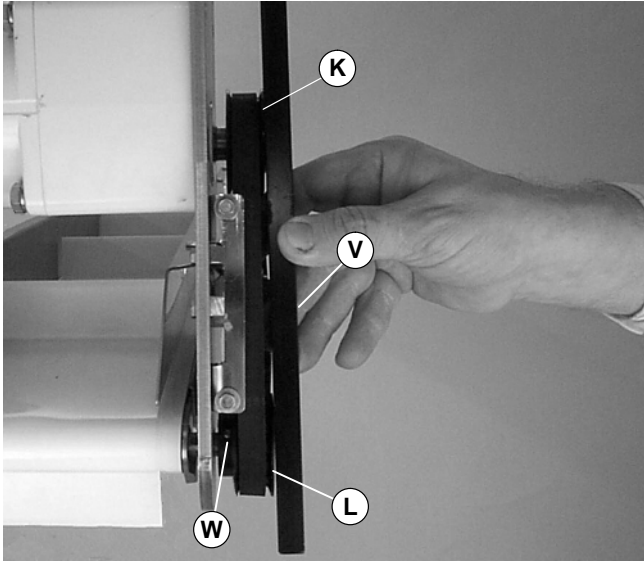

Figure 6
6. Using a straight edge (V of Figure 6), align driven pulley (L) with drive pulley (K). Tighten driven pulley set screws (W).